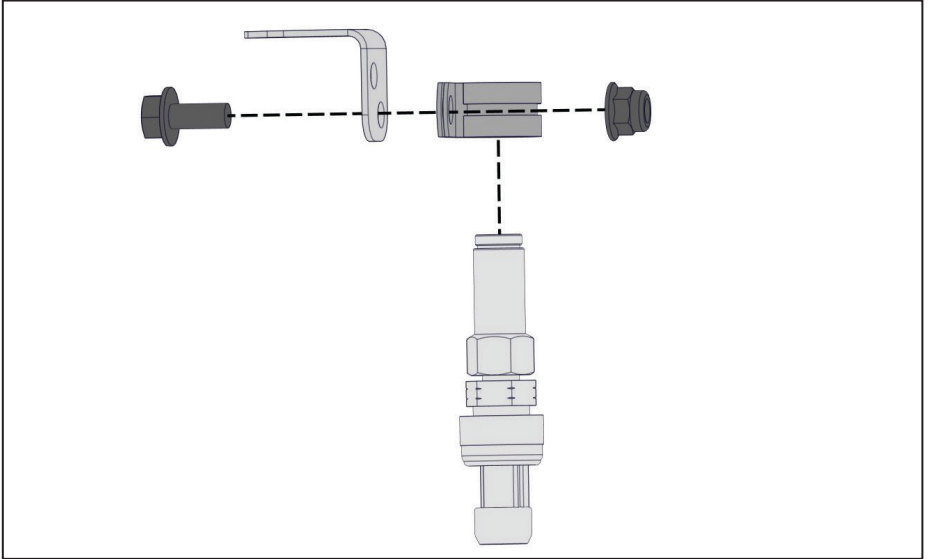

Figure 20 — Mount compressor
- Slide the pressure sensor assembly into the P-clip and mount it to the bracket using the supplied M6×14 mm bolt, and M6 nut (Figure 20).